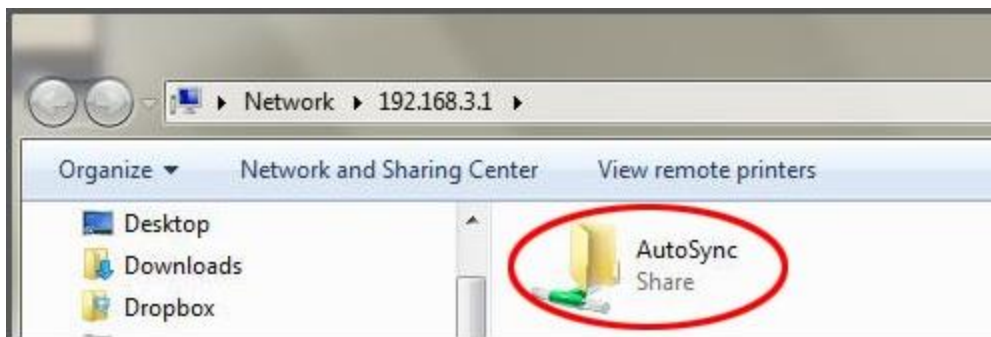

Figure 48 AutoSync screen
7. You should see the following: (Figure 48)